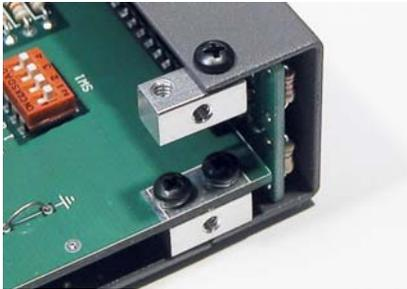

Figure 46. Attaching 2-D Fasteners to Cabinet End Covers.
- Attach a 2-D fastener to the each screw hole at the top corners of the front and rear chassis end panels with 3/16" (4.8 mm) screws. Be sure the widest side of each 2-D fastener is facing so the edge lines up flush with the edge of the panel as shown in Figure 46.